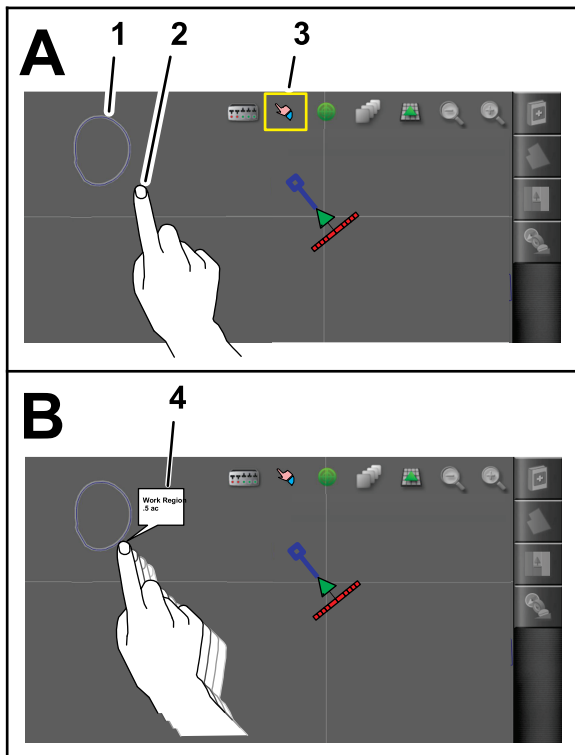

Figure 56
1. After creating the boundary, press your finger on the control console screen next to the boundary line until the boundary-selection icon illuminates, and slid your finger to the boundary line (Figure 56).